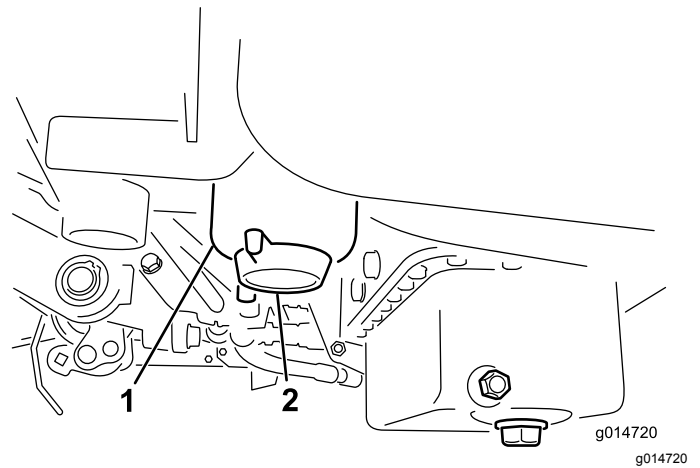

Figure 49
2. Clean the area where the filter canister mounts (Figure 49).
4. Open the filter-drain plug (Figure 49).